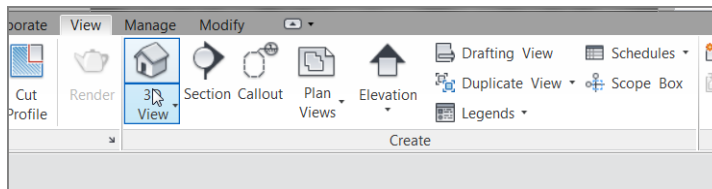

FIGURE 1.41: The 3D View icon will be used heavily.
1. Click the 3D View icon, as shown in Figure 1.41.